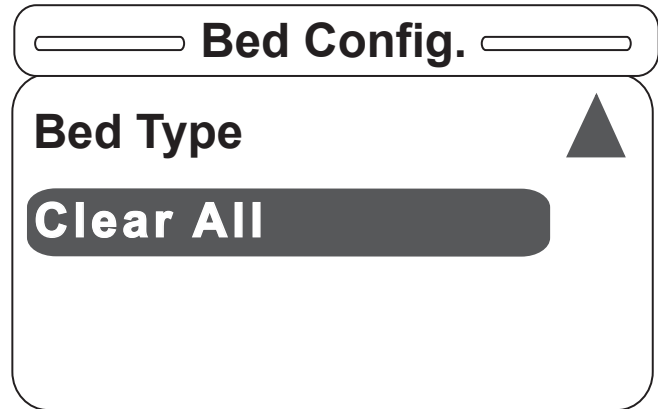

Figure S-1
1. On the first power up, the footboard screen will display Figure S-1. Only two items should be displayed.